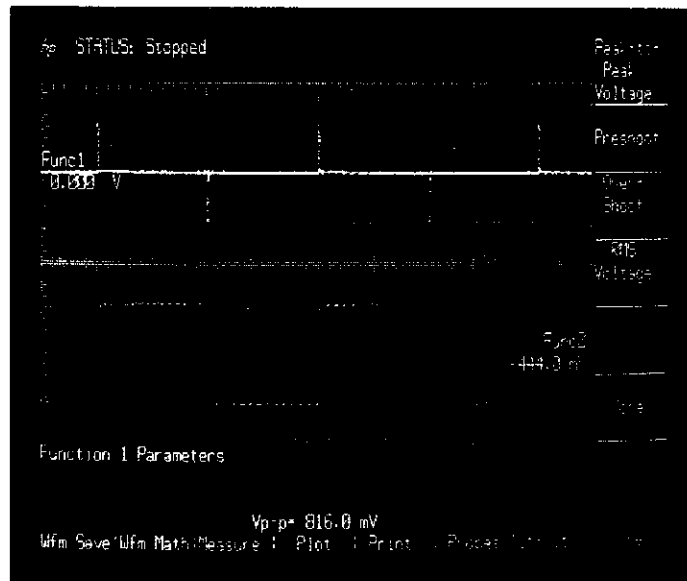

Figure 7-28. Measuring Func 1 Parameters
5. Press the peak-to-peak key and notice Vmarker appear on the func 1 trace. Press this key repeatedly. (see figure 7-28)